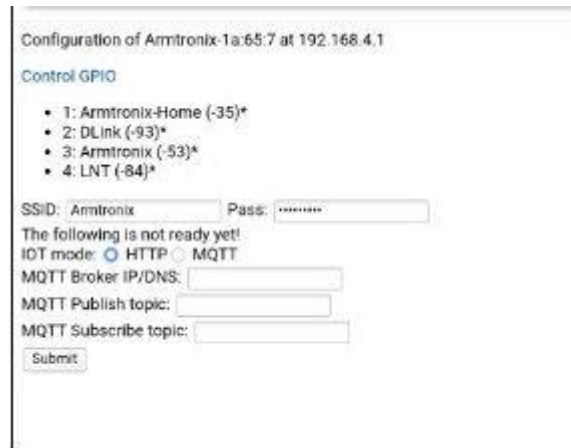

Figure 10: Web server
6. Click on tools tab, move mouse pointer to “Programmer: “Arduino as ISP””, under this click on “Arduino as ISP” to select. Refer to figure 10.